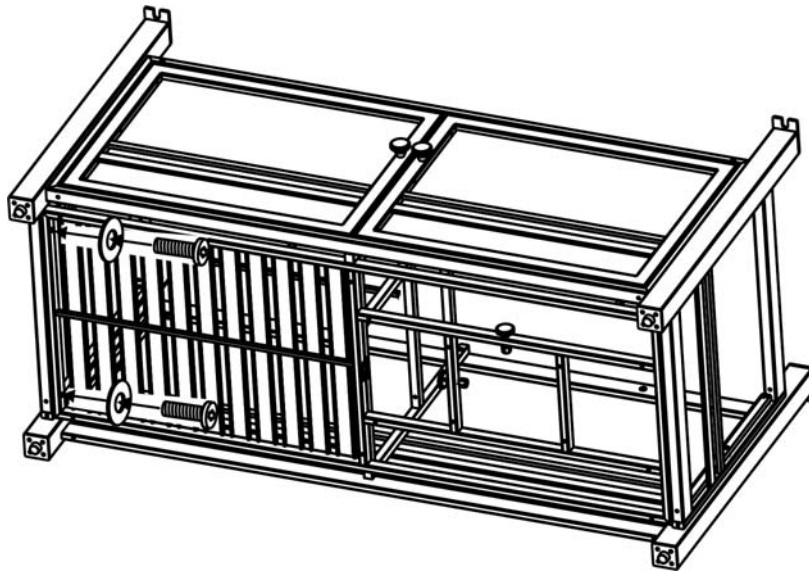

Figure 4
4. Attach the bottom panel to legs by using four 1/4"x30 mm bolts and washers as shown in Figure 4. Guide the bolts through holes in the bottom panel, into pre-drilled holes in the legs. **Hand tighten only.**